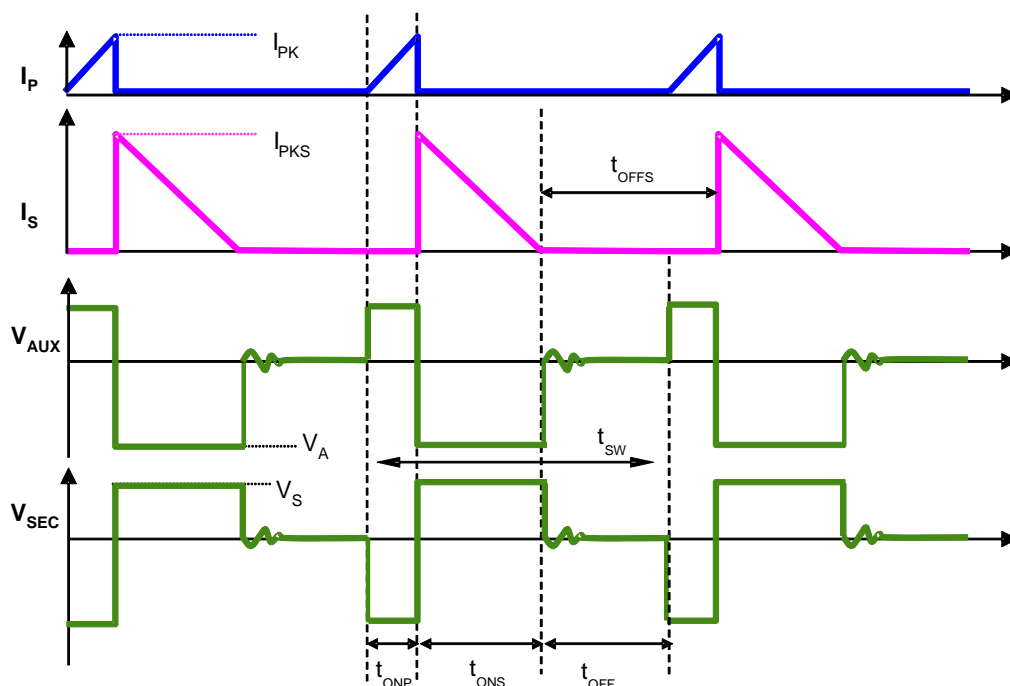

Fig.3 Typical Waveforms
Fig.3 shows the typical waveforms which demonstrate the basic operating principle of μP6323K2M-6 application. And the parameters are defined as following.
11.3 Constant Current (CC) Operation
The μP6323K2M-6 can work in constant-current (CC) mode. Figure 3 shows the secondary current waveforms. In CC operation mode, the CC control loop of μP6323K2M-6 will keep a fixed proportion between D1 on-time t_{ONS} and D1 off-time t_{OFFS} . The fixed proportion is